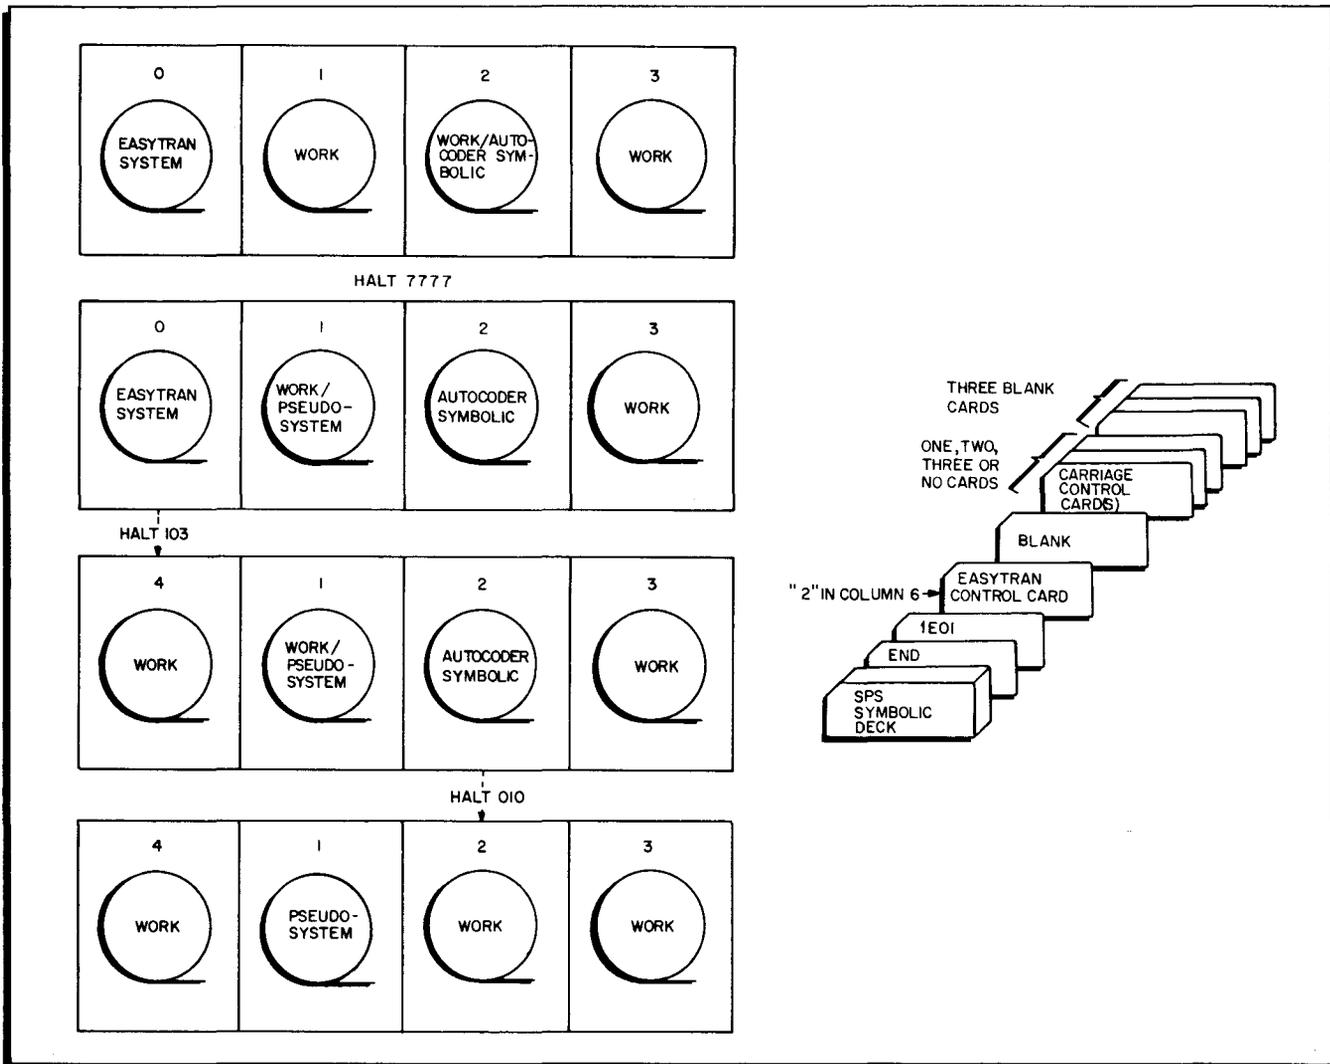

Figure 3. Four Tape System — Tape Manipulation and Card Input for SPS Conversion from Cards
Four-Tape System: SPS Conversion from Cards (Figure 3)
1. Make up the Easytran input deck as shown in Figure 3; load the card reader.